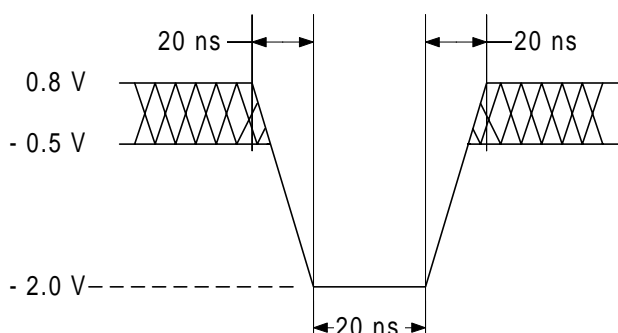
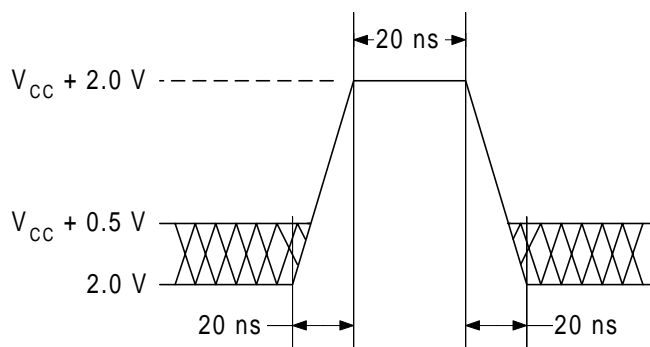

Figure 8. Maximum Undershoot Waveform
Figure 9. Maximum Overshoot Waveform
1. Minimum DC voltage on input or I/O pins is -0.5 V. During voltage transitions, input or I/O pins may undershoot V_{SS} to -2.0V for periods of up to 20 ns. See Figure 8. Maximum DC voltage on input or I/O pins is $V_{CC} + 0.5$ V. During voltage transitions, input or I/O pins may overshoot to $V_{CC} + 2.0$ V for periods up to 20 ns. See Figure 9.
2. Minimum DC input voltage on pins A[9] and OE# is -0.5 V. During voltage transitions, A[9] and OE# may undershoot V_{SS} to -2.0 V for periods of up to 20 ns. See Figure 8. Maximum DC input voltage on these pins is +12.5 V which may overshoot to 13.5 V for periods up to 20 ns.